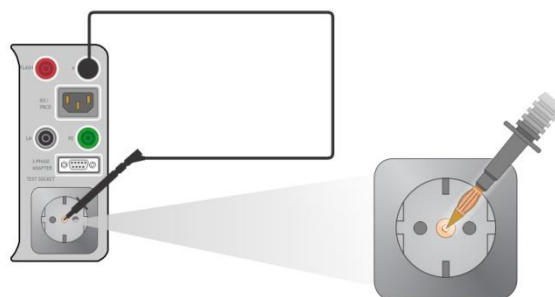

Figure 6.21: Shorted test lead
- › Connect test lead to the instrument between P/S terminal and PE terminal on test socket, see *Figure 6.21*.